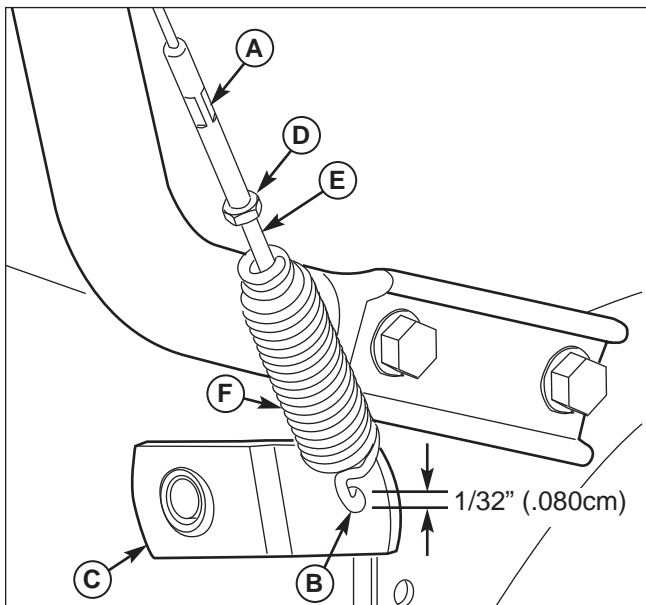

Figure 20. Auger Drive Adjustment
1. With the drive lever released, the hook (B, Figure 20) should barely touch the lever (C) without raising it. There can be a maximum 1/32" clearance as shown.
2. To adjust, loosen nut (D) by holding the adjusting flats (A) and turning nut (D). Turn adjustment flats (A) and hold screw. The adjustment screw (E) is a phillips screw and the head can be held or turned by inserting a screwdriver through the spring (F).
3. Hold adjusting flats (A) and tighten nut (D).